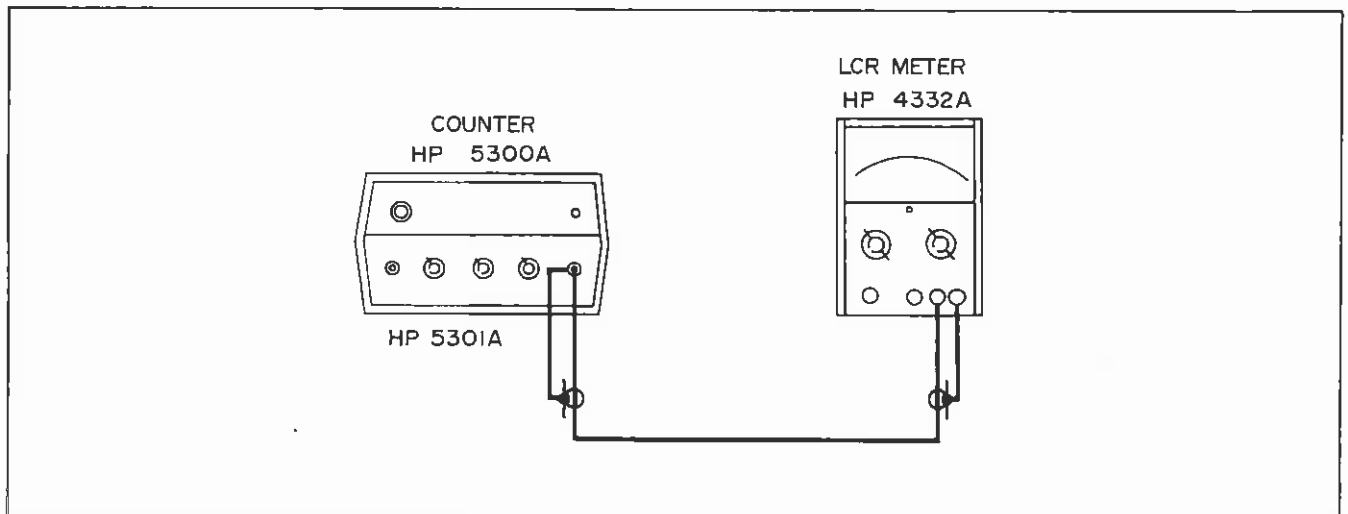

Figure 5-2. Frequency Measurement
- a. Connect equipment as shown in Figure 5-2.